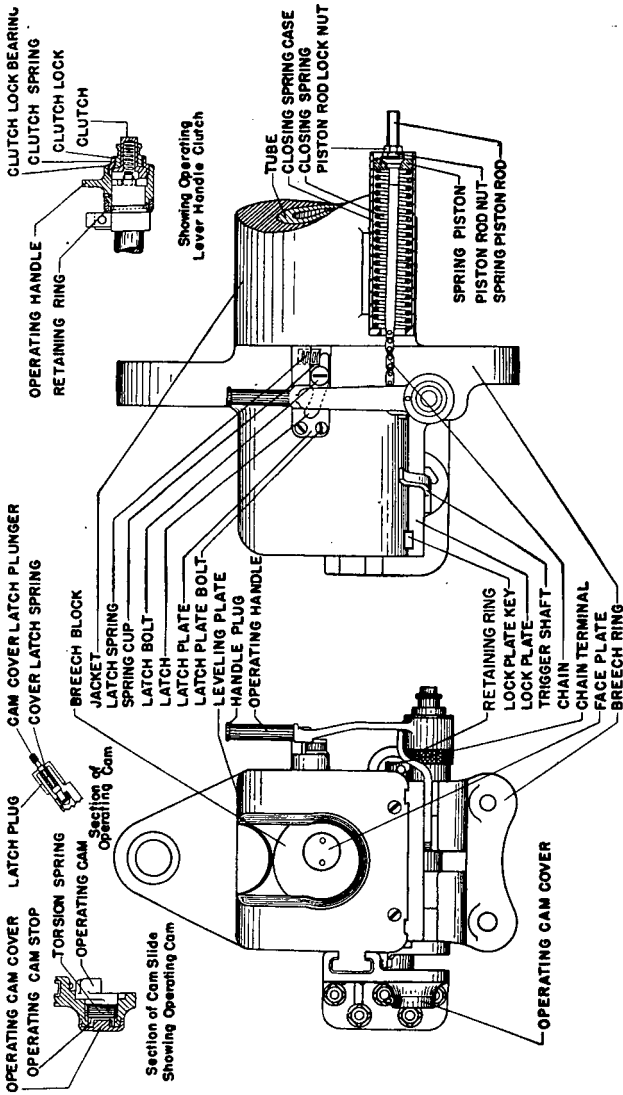

FIGURE 12.—Breech mechanism assembly, 3-inch anti-aircraft gun, M1917.
b. An eyebolt is screwed in the top of the breechblock and a rope attached thereto. The lock screw for retaining ring (fig. 12) is removed, and the retaining ring turned clockwise (forward) until the operating handle is free to be pulled off the operating lever. After the handle is removed, the breechblock is raised. Meanwhile, another man takes a firm hold on both ends of the operating lever and, as the breechblock rises, pushes the operating lever as far to the rear as the breechblock will allow, thereby disengaging the T-shaped cam from its groove in the breechblock. The breechblock is pulled up as far as it will go and the operating lever removed